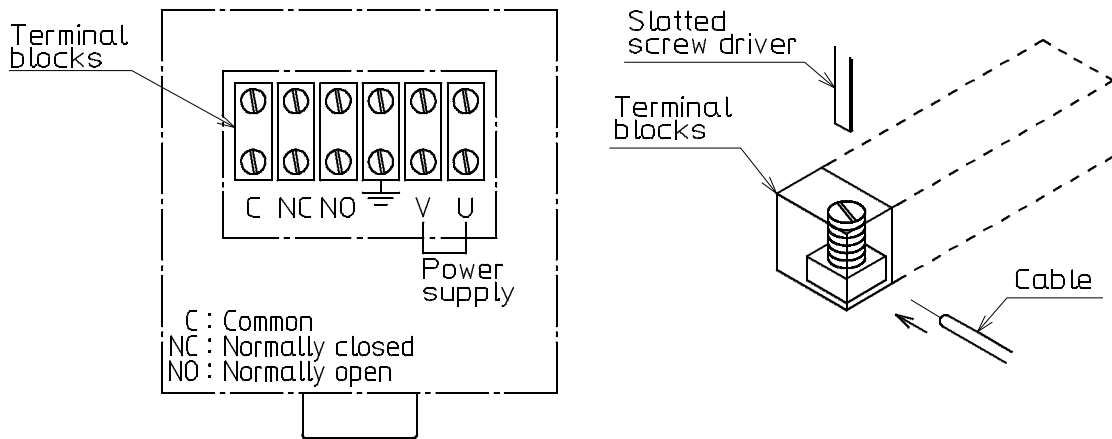

Fig. 4
- (1) Prepare a 4- or 5-conductor vinyl-insulated vinyl-sheathed cable. The cable finished outside diameter should be between 8 to 11mm and conductors should be between 0.5 to 3.5mm^2 .
- (2) Remove approximately 100mm of cable sheath from the end of the cable and approximately 10mm of conductor sheath.
- (3) Check that the cable gland is pointing down.
- (4) Remove the housing cover (loosen the 2 screws).
- (5) Bring the cable into housing.
- (6) Connect cables to the terminals. See Fig. 4.